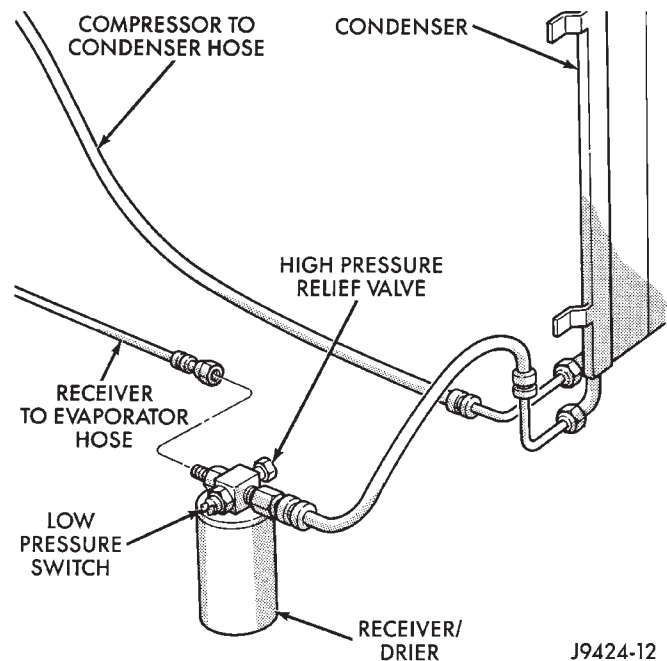

Fig. 22 Receiver Drier—4.0L Engine
- (1) Evacuate the A/C system, disconnect the A/C hoses from the receiver drier and plug the openings (Fig. 22).
- (2) Unplug the harness from the low pressure switch.
- (3) Remove the nut attaching the receiver drier to the side sill weld stud.
- (4) Remove the receiver drier.